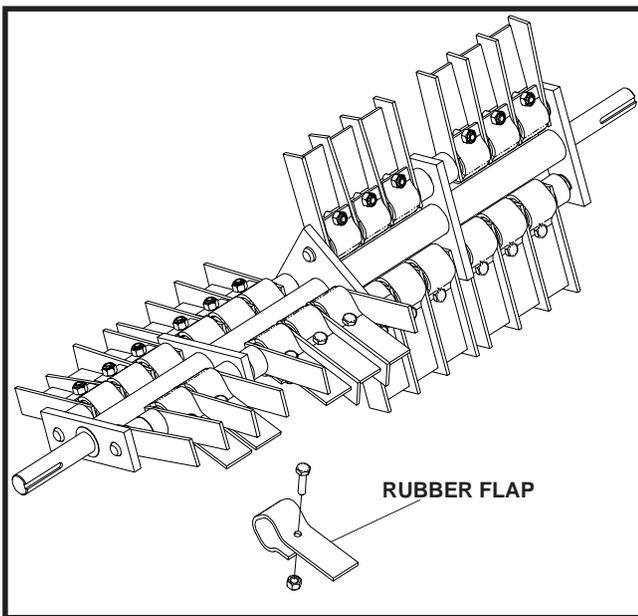

FIGURE 3
- Install rubber flaps between flail blades on the rake shaft. See Figure 3. If this shaft is installed, you DO NOT have to remove the shaft from the unit to install the the rubber flaps.